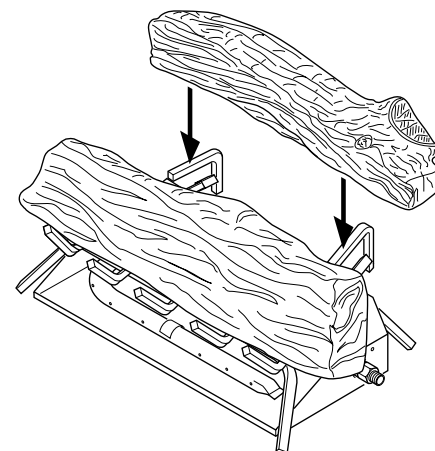

Figure 19 - Installing Front and Back Logs
3. Place the front log on the grate and slide forward against the front bars on the grate (see Figure 19).
4. Place the back log on the grate onto the grate steps (see Figure 19).